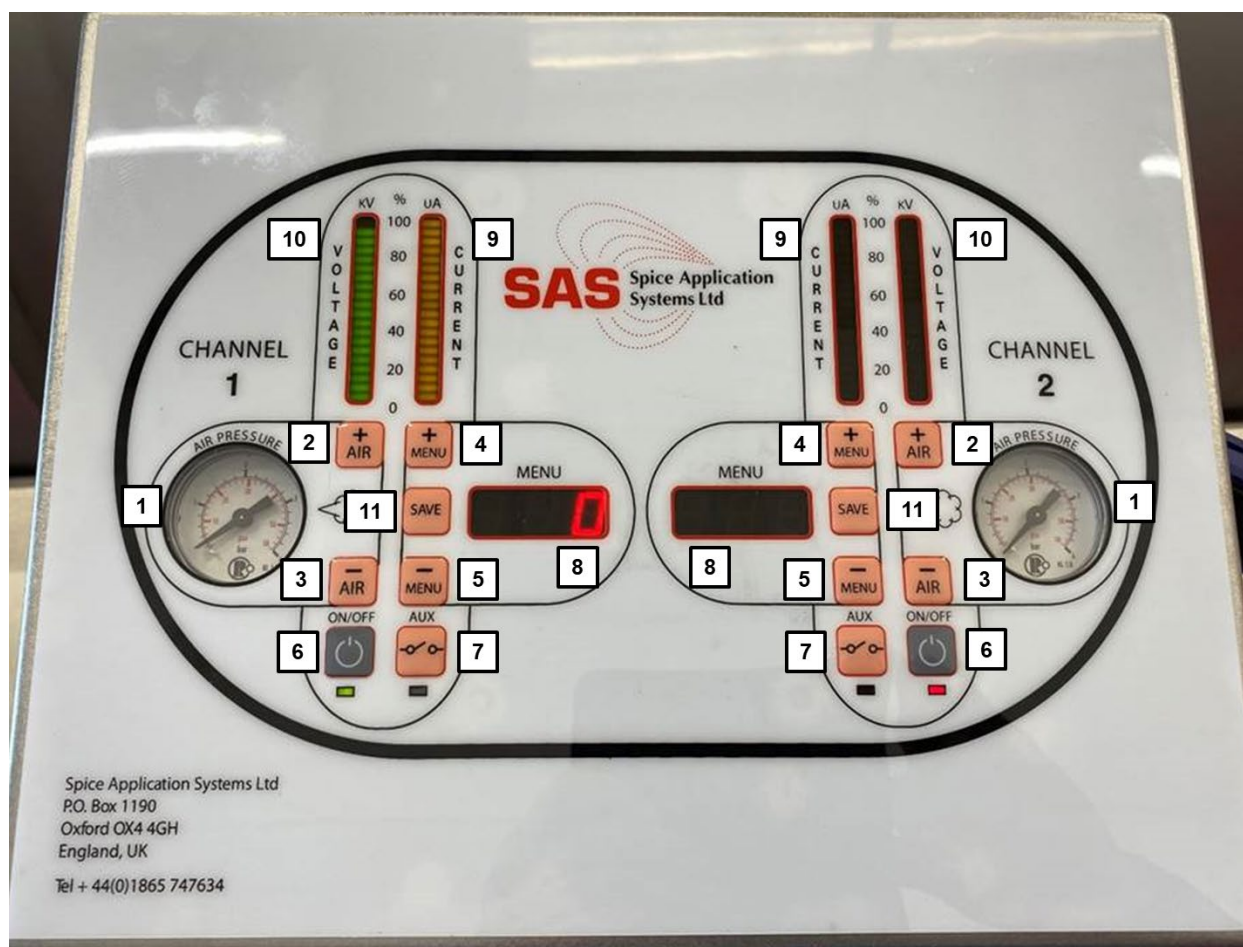

Fig 8
(see Page 16 - Fig 8 for reference)
3. To turn on the electrostatic effect, press the Local ON/OFF button on the panel facia (see page 16 - Fig 8, position 6). The LED light below the button will turn from Red to Green and the Kilovolt and Microamp dials will be illuminated.